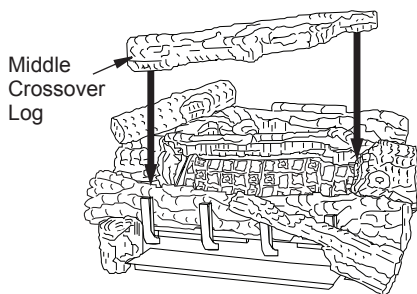

Figure 34 - Installing Middle Crossover Log
10. Rest the middle crossover log (18" D-070, 24" & 30" D-044) onto the right middle log and the left front log (see Figure 34). Make sure to match the projection on the bottom of the crossover log with the recess area in the right middle log and the left front log.